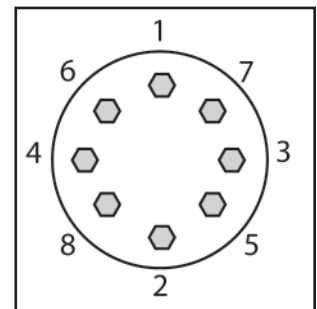

Figure 4
31. Reinstall the two right rear wheels. Refer to Figure 4 for proper lug nut tightening sequence. Tighten lug nuts until snug, then hand-torque per wheel manufacturer's specifications, using the same tightening sequence.